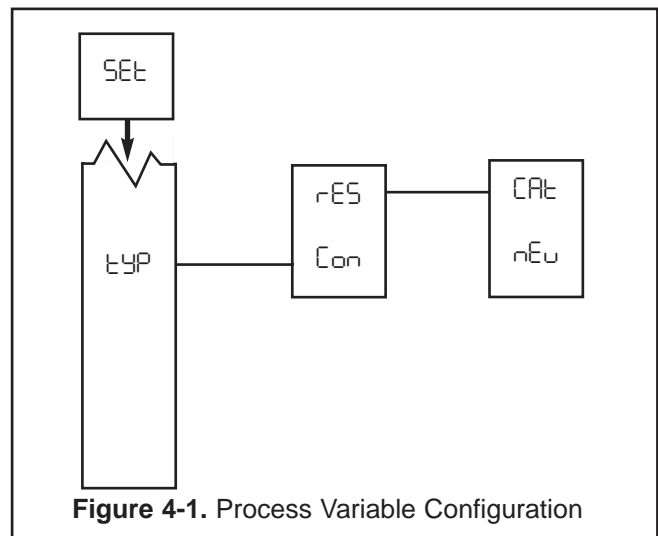

Figure 4-1. Process Variable Configuration
4.2.1 Primary Variable Configuration (tYP). Refer to Figure 4-1.